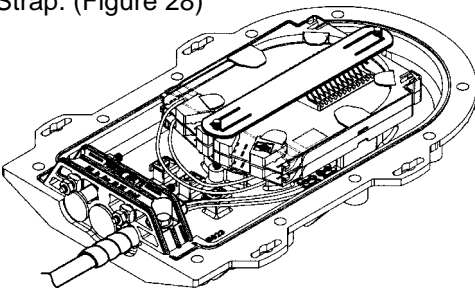

FIGURE 28 - SECURE SPLICE TRAYS
- 11.06** Secure Splice Tray(s) in place on the threaded studs with the Splice Tray Hold Down Strap. (Figure 28)